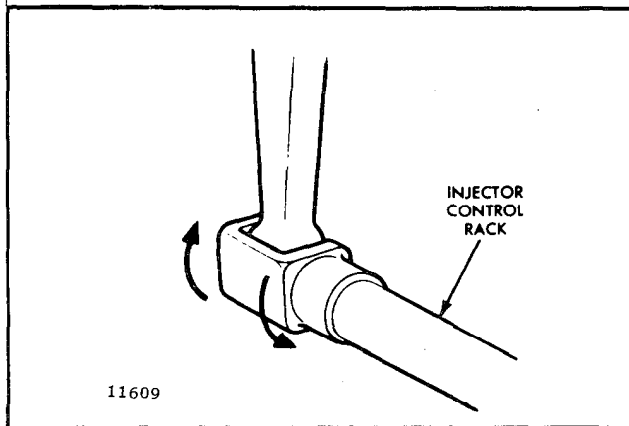
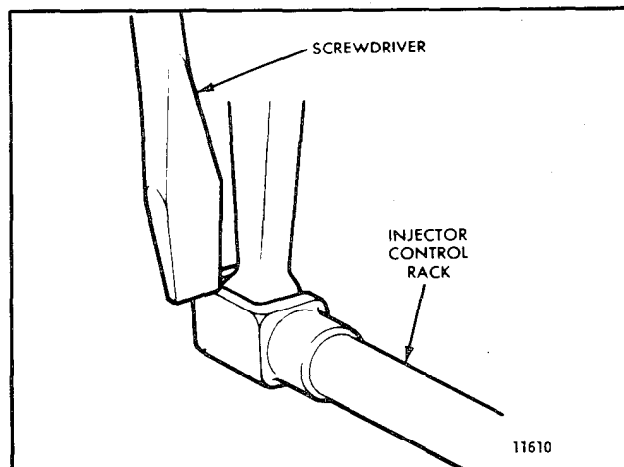

Fig. 5 - Checking Rotating Movement of Injector Control Rack
Fig. 6 - Checking Injector Control Rack "Spring"
8. To be sure of the proper rack adjustment, hold the speed control lever in the maximum speed position and press down on the injector rack with a screw driver or finger tip and note "rotating" movement of the injector control rack (Fig. 5). Hold the speed control lever in the maximum speed position and, using a screw driver, press downward on the injector control rack. The rack should tilt downward (Fig. 6) and when the pressure of the screw driver is released, the control rack should "spring" back upward.